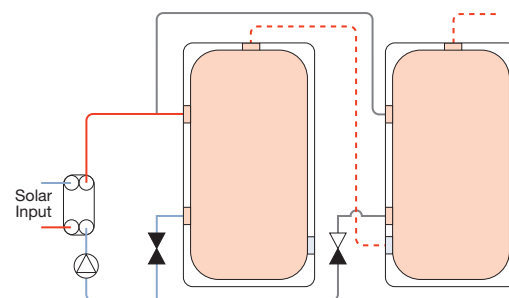

Figure 14: Second tank charging
2. When the temperature sensor detects Tank 1 has reached its maximum, then Valve 1 closes and Valve 2 opens, diverting all the solar energy into Tank 2 (Figure 14).